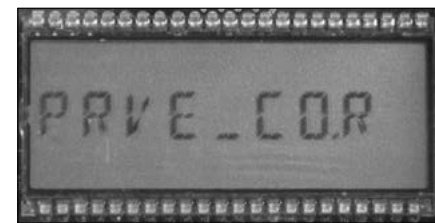

Figure 5 - LCD screen displays PRVE_CO.R
- Hold the magnet for about five seconds on the word "swipe" until the display changes to **PRVE_CO.R** (Figure 5).